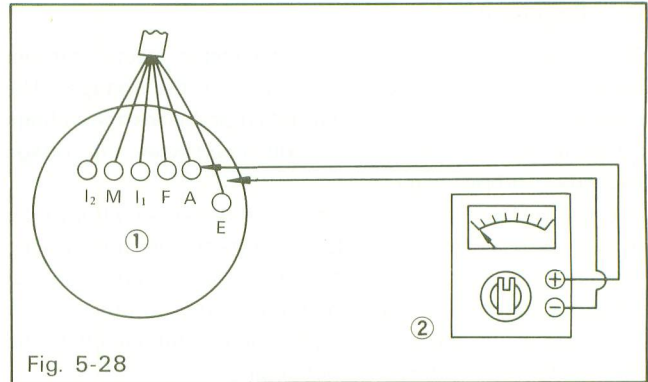

Fig. 5-28
4) After the adjustment, the generated voltage shows slight fluctuations as illustrated. (Fig. 5-28)